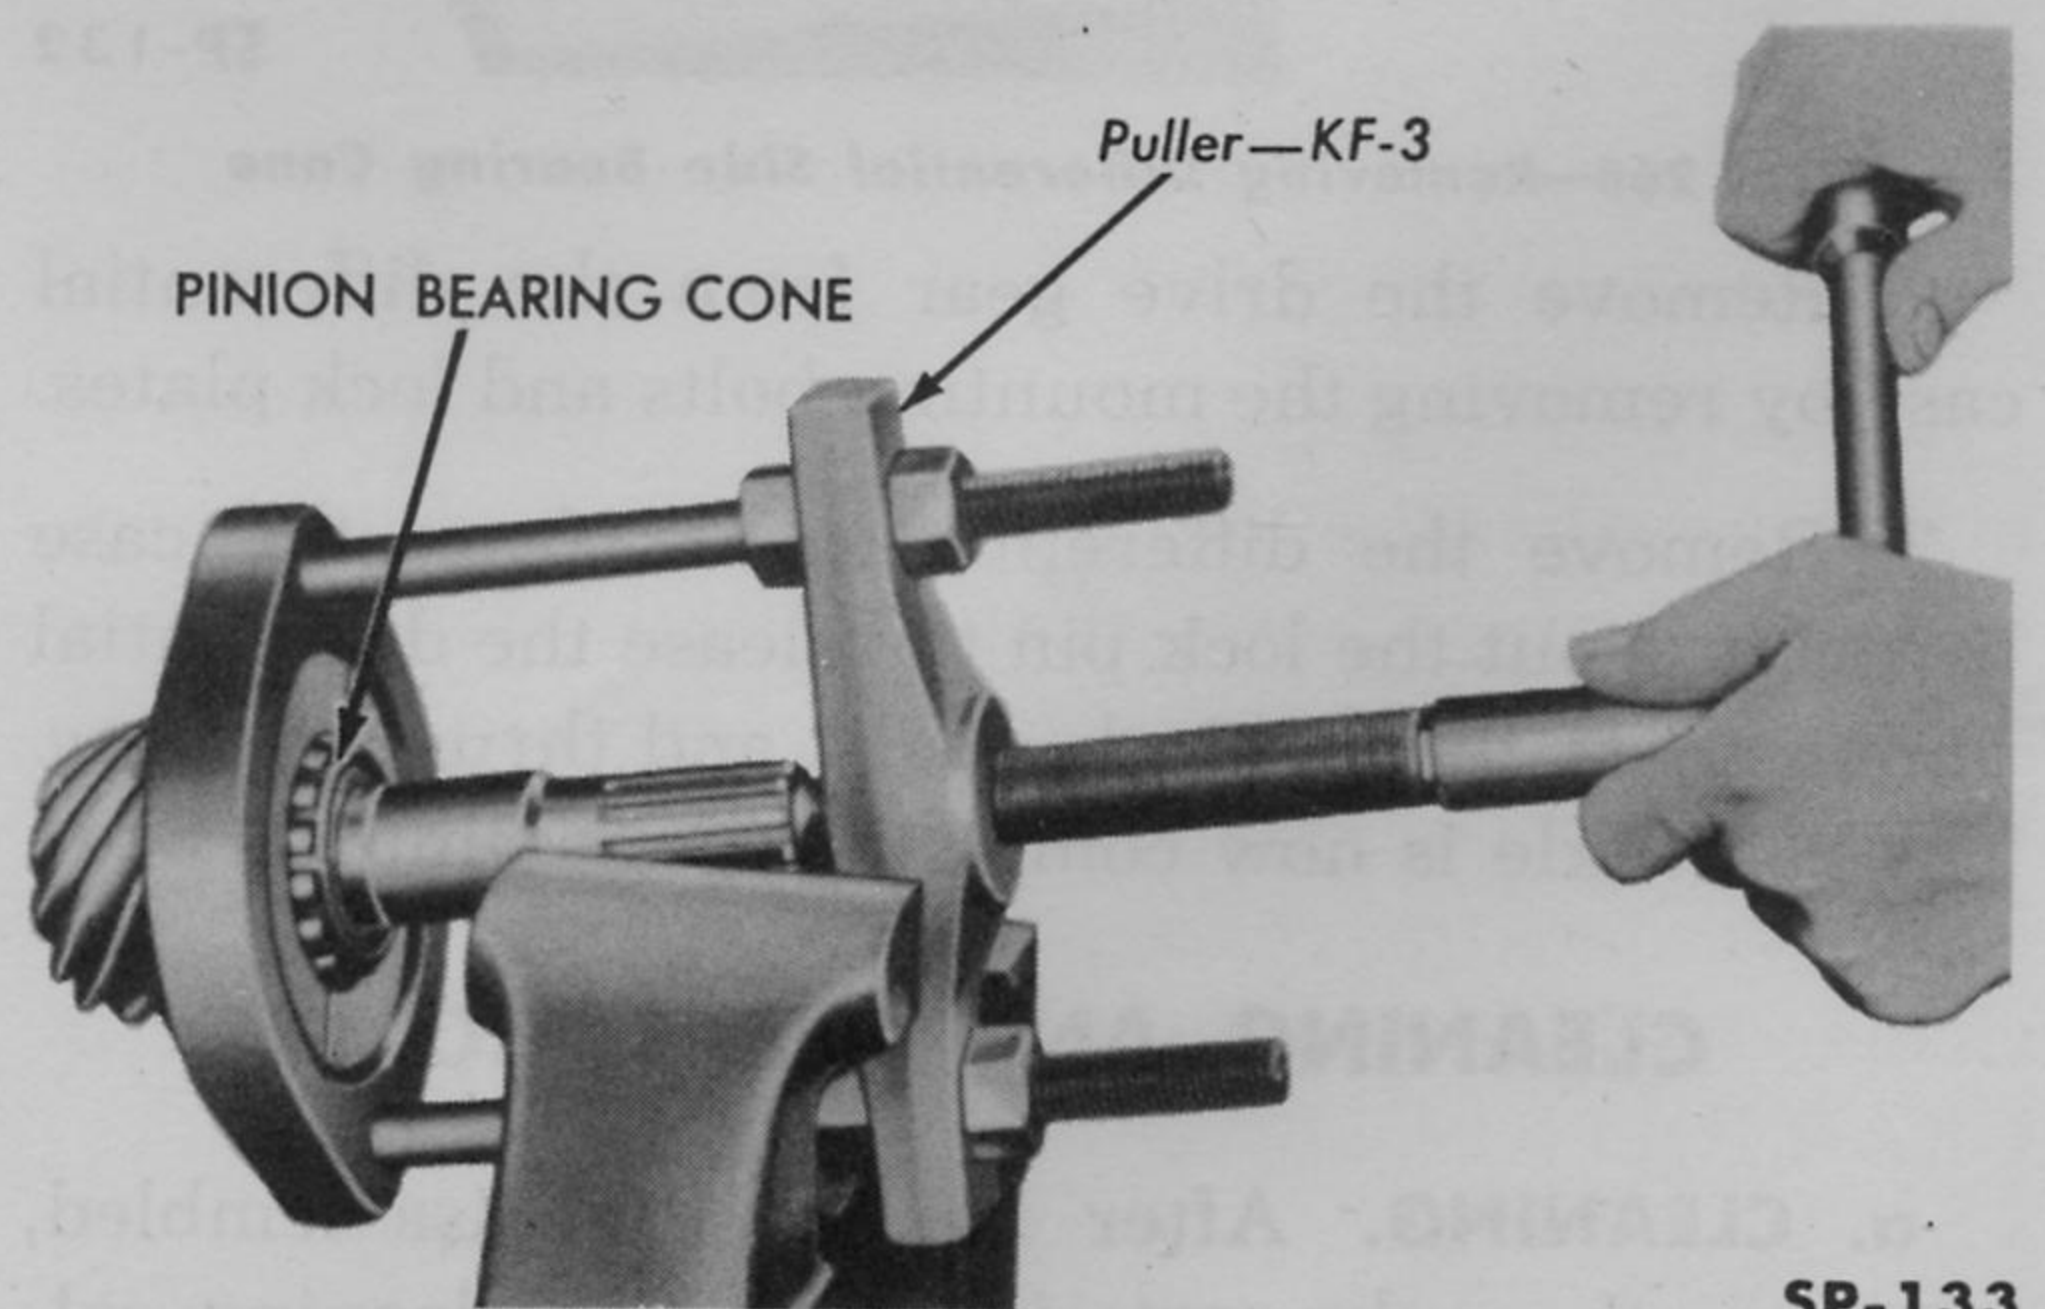

Fig. 265—Removing Pinion Rear Bearing Cone
6. Remove the front adjusting shim pack, spacer (Model 41 axle only), and rear bearing cone from the drive pinion. **NOTE: A shoulder on the pinion shaft in Model 44 axles serves the same purpose as the spacer used in Model 41 axles.** The rear bearing cone may be removed with Puller KF-3 (Fig. 265).